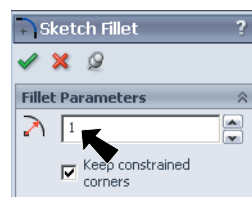

Fig. 6
Step 5. Click Zoom to Fit  (F) on the View toolbar.
Step 2. Set the **Radius**  to **1** in the Sketch Fillet Property Manager, **Fig. 6**.